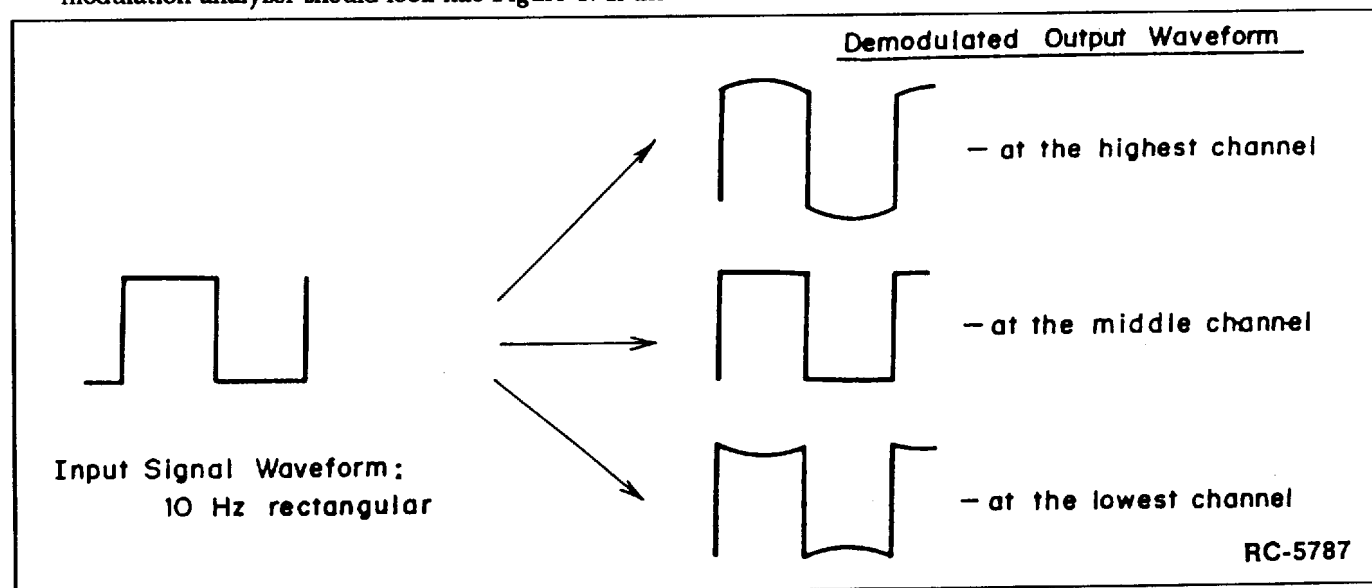

Figure 4 - Typical Rectangular Waveform of Demodulated Output
3. Change the signal to a 10 Hz rectangular waveform signal. Then, the demodulated output from the modulation analyzer should look like Figure 4. If the
level adjustments under steps 1 and 2 are out of balance, the rectangular waveform will be distorted (refer to Figure 4).